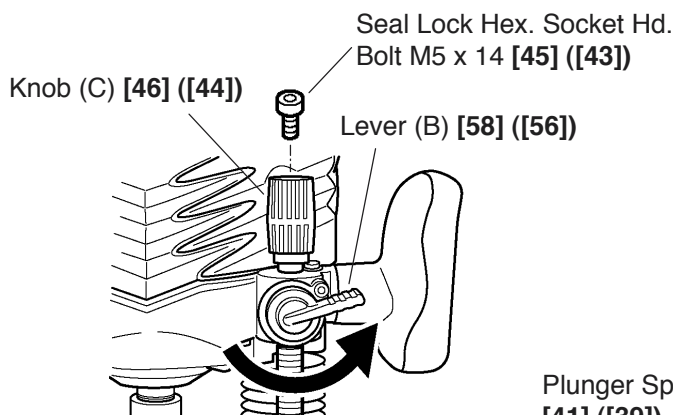
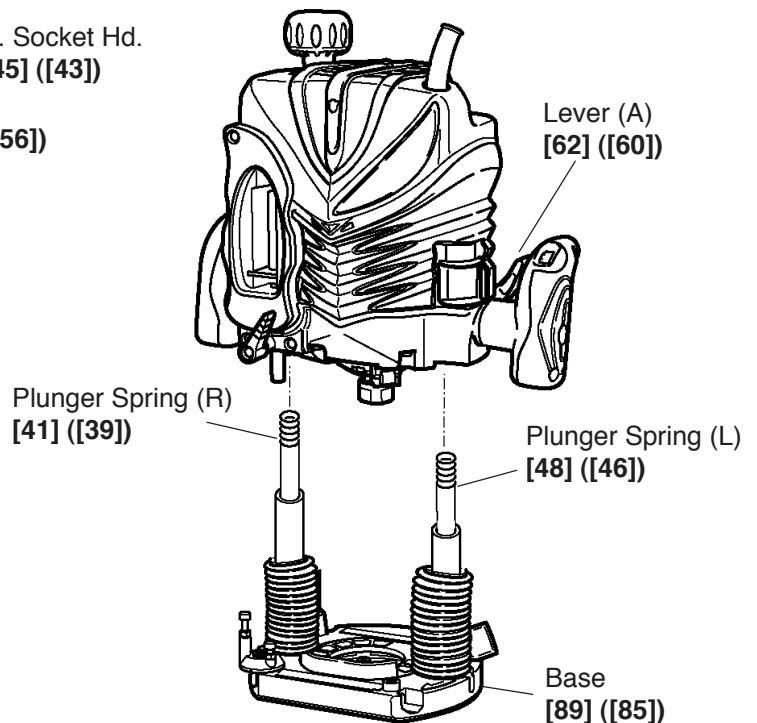

Fig. 8
Fig. 9
- (1) First, remove the bit. If further disassembly is attempted with the bit mounted on the router, it may cause damage to the cutting edges of the bit and/or serious injury to the handler.
- (2) Removal of the Base **[89]** **([85])** (Fig. 8 and Fig. 9)
- (b) Turn Lever (B) **[58]** **([56])** in a counterclockwise direction and lock Lever (A) **[62]** **([60])**.
- (c) With a 10-mm wrench and a hex. bar wrench, loosen and remove the Seal Lock Hex. Socket Hd. Bolt M5 x 14 **[45]** **([43])**, and remove Knob (C) **[46]** **([44])**.
- (d) Release Lever (A) **[62]** **([60])** and disassemble the Base **[89]** **([85])** from the main body. As Plunger Spring (R) **[41]** **([39])** and Plunger Spring (L) **[48]** **([46])** are installed within the columns of the Base **[89]** **([85])**, be sure to support the main body by firmly gripping the handle during disassembly.